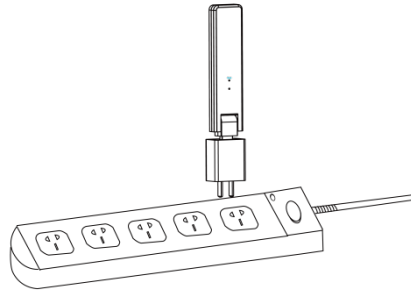

Figure 2
b. If using a power strip, make sure that it is placed at least 1 meter above the ground, and try to install the DTU at a 90 degree angle perpendicular to the ground (Figure 2).